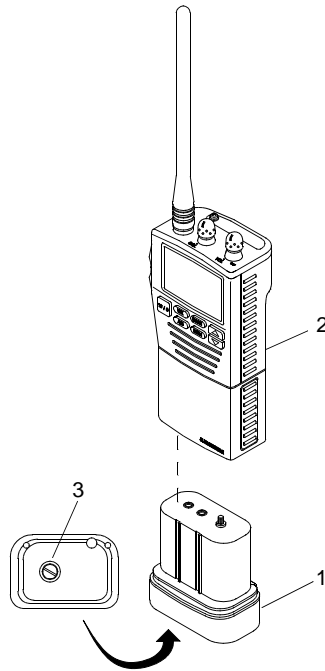

Figure 12. Battery Installation
4. Install CNB350 nickel cadmium battery pack (figure 12, item 1) in transceiver (figure 12, item 2).
- a. Slide battery pack (figure 12, item 1) into battery cavity.
- b. Rotate battery lock screw (figure 12, item 3) clockwise and tighten.